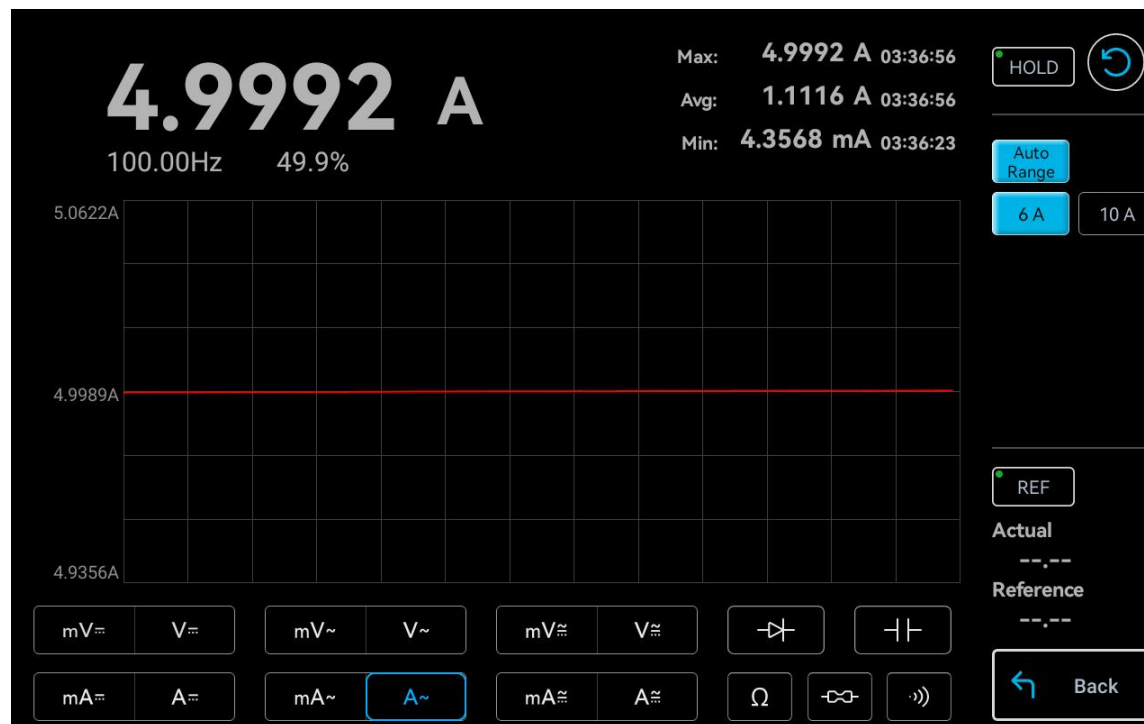

Figure 8-10 AC Current Measurement (A)
Test Steps: Select and enable the AC current measurement (A) in the measurement item selection area , as shown in Figure 8-10.